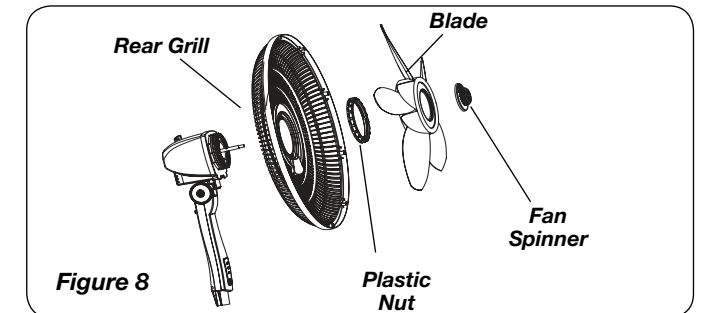

Figure 8
3. Fully seat **Rear Grill** and secure with **Plastic Nut** turning Clockwise. Slide **Blade** onto **Motor Shaft**. (*Figure 8*) Align **Groove** on blade hub with **Pin** on motor shaft. (*Figure 8A*)